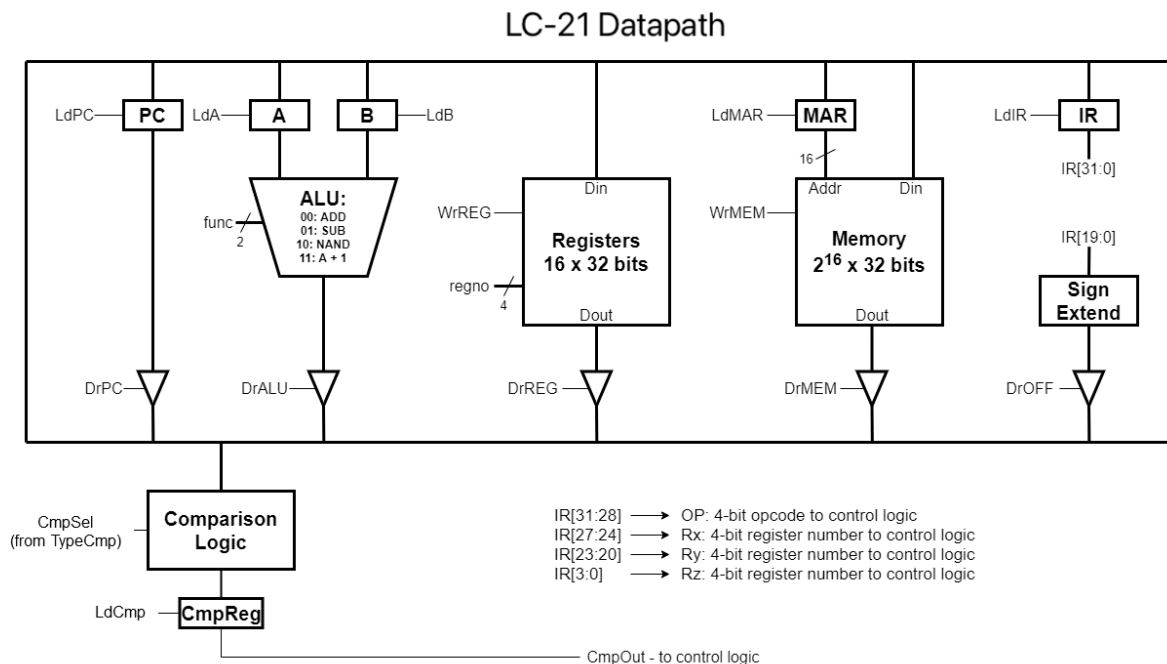

Figure 1: Datapath for the LC-21 Processor
2. Using CircuitSim, implement the LC-21 datapath. To do this, you will need to use the details of the LC-21 datapath defined in Appendix A: LC-21 Instruction Set Architecture. You should model your datapath on Figure 1.
The “comparison logic” box in Figure 1 is responsible for performing the comparison logic associated with the BGE and BLE instructions. The comparison logic should read the current value on the bus plus the mode bits from the IR. When executing BGE and BLE, you should compute  $A - B$  using the ALU. While this result of the ALU is being driven on the bus, the comparison logic should read the result  $A - B$  and output a single “true” or “false” bit for either the condition  $A \geq B$  or  $A \leq B$  depending on the mode input.
2. Implement the Microcontrol Unit using CircuitSim. The appendix contains all of the necessary information. Take note that the input and output signals on the schematics directly match the signals marked in the LC-21 datapath schematic (see Figure 1).
3. Connect the completed control unit to the datapath you implemented in Phase 1. Using Figures 1 and 2, connect the control signals to their appropriate spots.